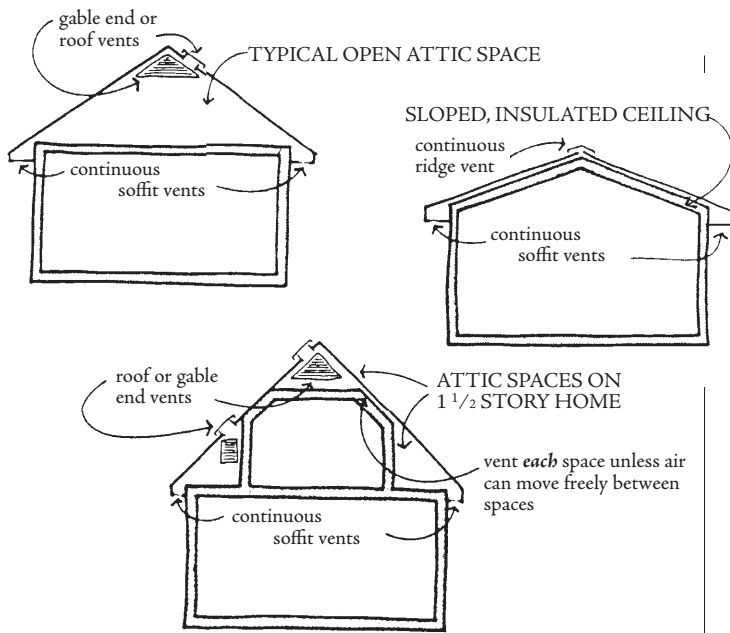

Figure 2: Attic Types
■ ONE-AND-A-HALF STORY ATTIC SPACE (see Fig. 2):